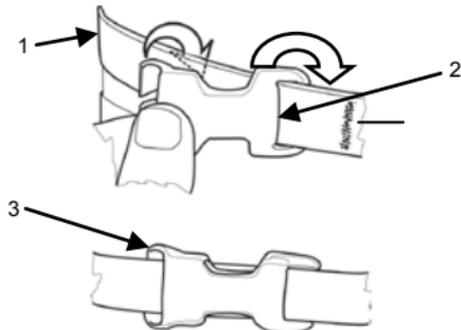

Figure 7. Attachment of TAP Quasm Buckles onto Webbing of IOTV or SPCS.
1. Attach both quasm female buckles to the webbing (Figure 7, Item 1) located on the outside of IOTV and SPCS. Attach as shown in illustration below, starting with the back of the buckle (Figure 7, Item 2), hooking from the bottom up. Then attach the front of the buckle (Figure 7, Item 3).